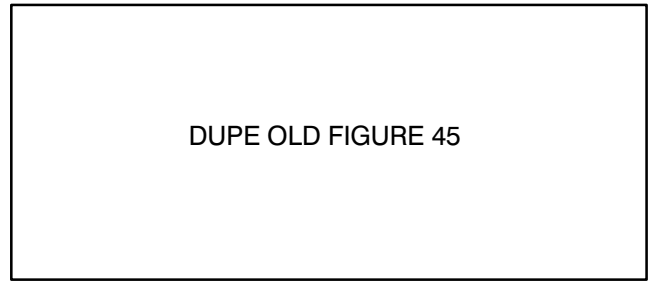

Figure 46
2. Loosen the jam nuts on both tie rods Adjust both tie rods until center-to-center distance at front and back of rear wheels is the same (Fig. 46).